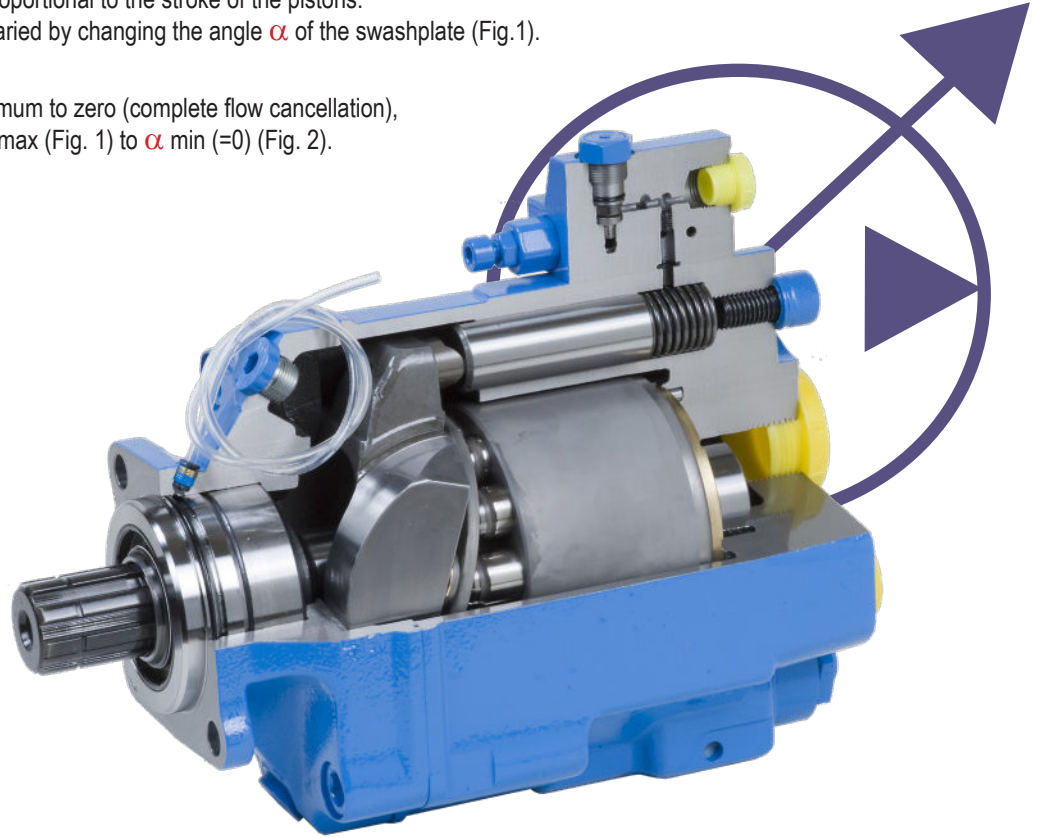

Figure 1 - Maximum displacement
- ▶ The displacement of the pump is proportional to the stroke of the pistons. Displacement – and thus flow - is varied by changing the angle  $\alpha$  of the swashplate (Fig.1).
- ▶ To change displacement from maximum to zero (complete flow cancellation), the swashplate angle goes from  $\alpha$  max (Fig. 1) to  $\alpha$  min (=0) (Fig. 2).